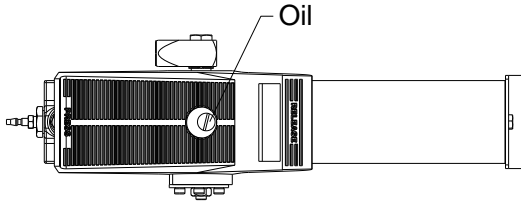

Fig.2
1. Remove fill plug (see fig.2) and fill SUN RUN hydraulic oil to 1/2" (1cm) below the fill opening. Use of fluids other than SUN RUN hydraulic oil may cause damage and will void your warranty.